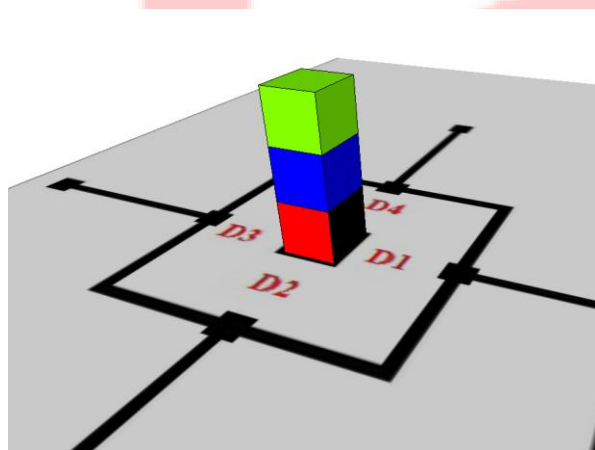

Figure 7: A combination of blocks in stack.
- One Low CCL Block of any color will be at the bottom of the stack. . Orientation of this block is inferred from the image .Two different colored High CCL blocks are stacked on the bottom block. The colors of the three blocks are mutually exclusive. We illustrate these with an example in Figure 7.